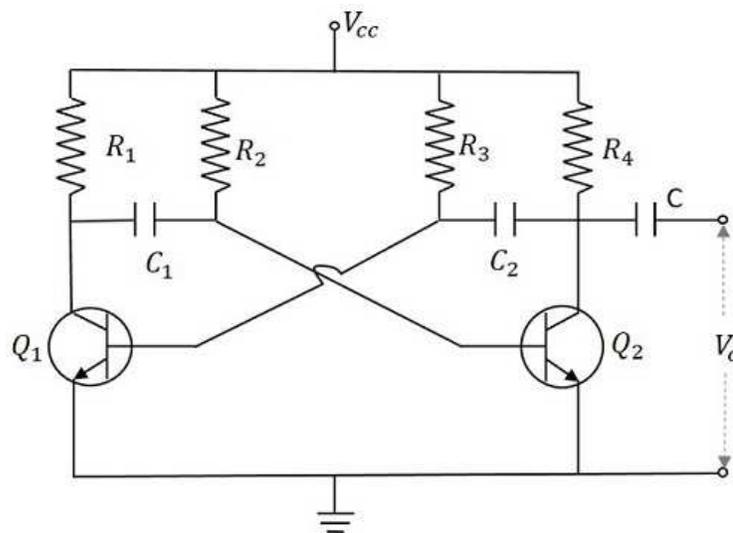

Figure 1
**Astable multivibrator:** As presented in figure 1, the two transistors  $Q_1$  and  $Q_2$  are connected such a way that output of one transistor is feedback to other and vice versa. The collector of transistor  $Q_1$  is connected to the base of transistor  $Q_2$  through the capacitor  $C_1$  and vice versa. The emitters of both the transistors are connected to the ground. The collector load resistors  $R_1$  and  $R_4$  and the biasing resistors  $R_2$  and  $R_3$  are of equal values. The capacitors  $C_1$  and  $C_2$  are of equal values.